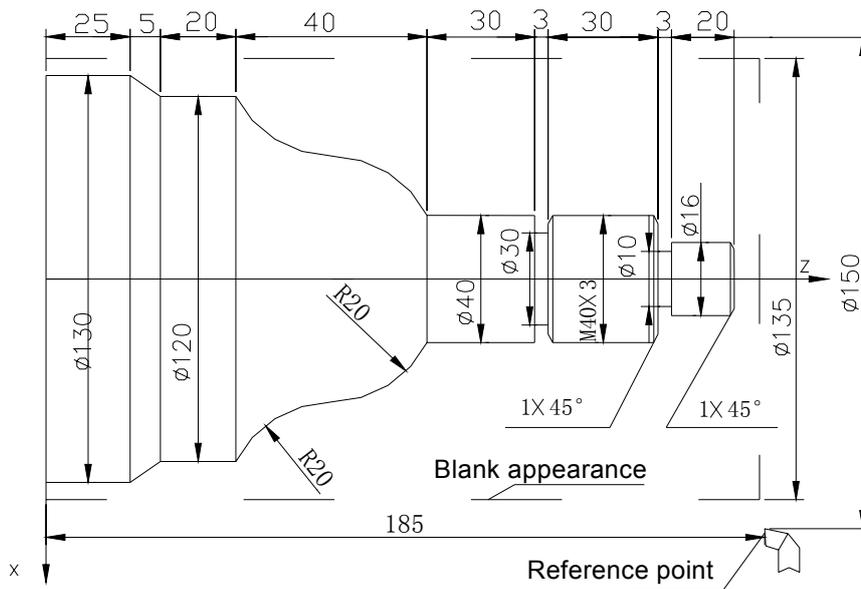

Fig. 36 Machining example
**Example 4 :** Compound machining as Fig. 36(G71, G92). Rod  $\Phi 135 \times 178$  mm .4 tools: No. 1 is outer roughing tool; No.2 is outer finishing tool; No.3 for grooving with 3mm width; No.4 is  $60^\circ$  threading tool. The machining allowance in finish machining is defined by the offset parameter T8.